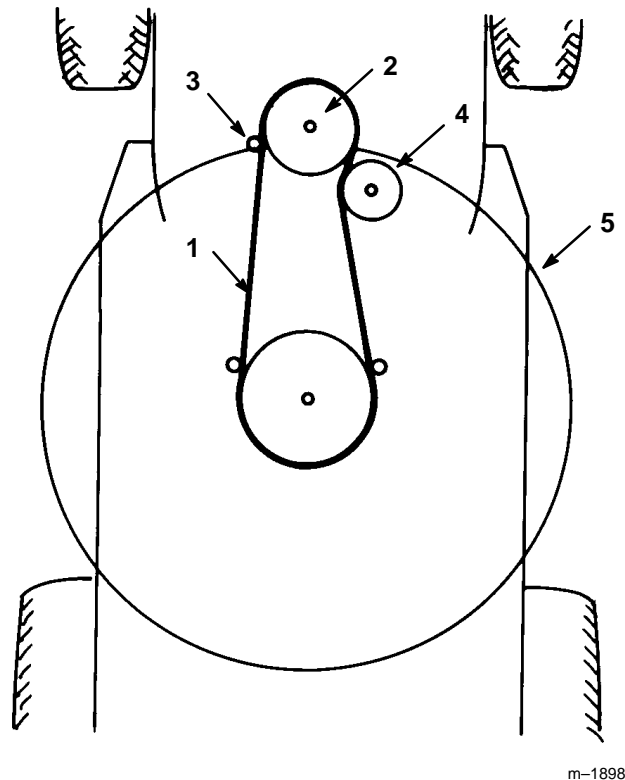

Figure 40
- 10. Remove the mower belt from the lower engine pulley (Fig. 40). If you are careful, you can flex the belt guide(s) just far enough away from the pulley to remove the belt. If it is too difficult to remove the belt, loosen the bolts and nuts securing the belt guides.
4. Install mower belt onto the lower engine pulley (Fig. 40). If you are careful, you can flex the belt guide(s) just far enough away from the pulley to install the belt. If it is too difficult to install the belt, loosen the bolts and nuts securing the belt guides.